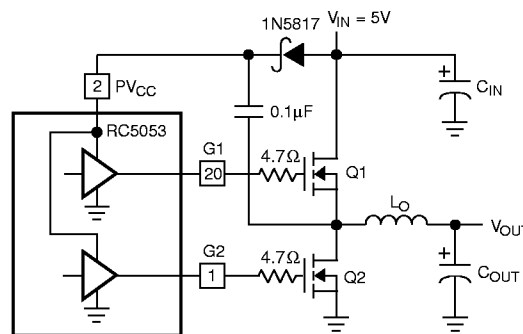

Figure 7. Doubling Charge Pump
Power for the internal MOSFET drivers is supplied by PVCC. This supply must be above the input supply voltage by at least one power MOSFET VGS(ON) for efficient operation. This higher voltage can be supplied with a separate supply, or it can be generated using a simple charge pump as shown in Figure 7. The 82% typical maximum duty cycle ensures sufficient off-time to refresh the charge pump during each cycle.